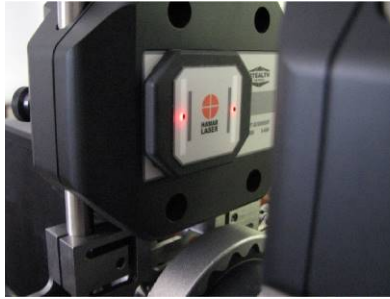

Figure 30 – Laser beams not aligned (left); Laser beams aligned (right)
**Figure 30**). For the horizontal axis, adjust the wheel on the front of the laser until the beams “disappear” into the holes. This should align the laser beams to  $\pm .030$ " (0.75 mm).
For the T-1285 target, use the dust cover/alignment tool to help align the horizontal axis (see **Figure 30**) by loosening the laser bracket and rotating it until the laser dots go into the alignment holes on the dust cover.